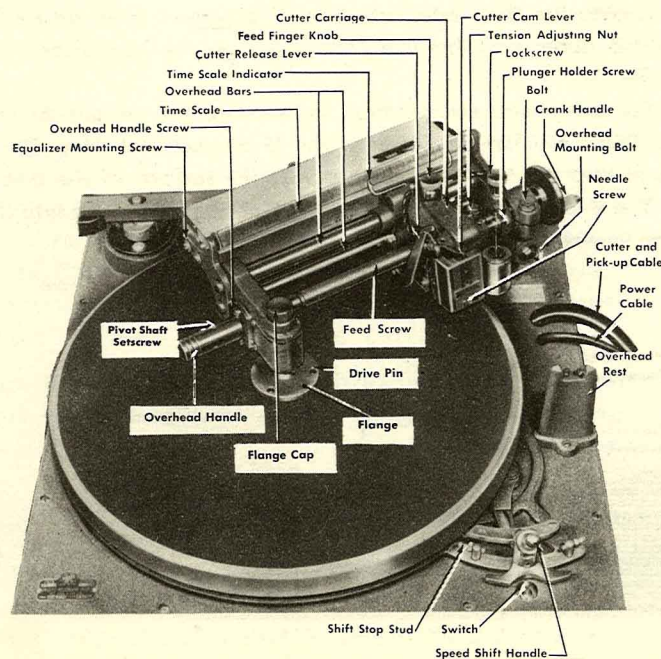

Figure 4. Close-up of the 6N Turntable.
### 1. 6N TURNTABLE (fig. 4).
**f. Feed Screw.** Feed screws are available to cut at 96, 112 or 120 lines per inch inside-out or outside-in. To change the feed screw, move the cutter carriage all the way over to the right (toward the crank handle). Disengage the cutter carriage (par. 1a) and loosen the lock screw (fig. 4). Hold the feed screw and pull out on the crank, thus disengaging it from the gear mechanism. Slip it out carefully for a replacement.